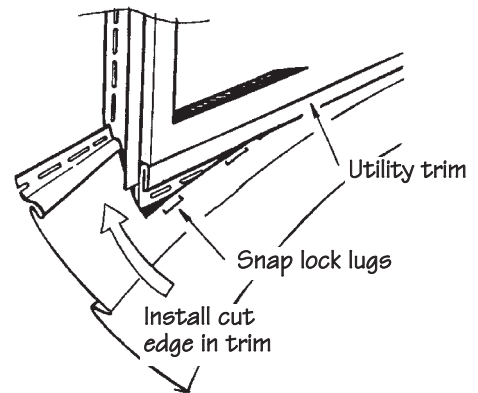

Figure 41.
- Install the siding panel, making sure the lugs (from the snap lock punch) lock into the utility trim (Fig. 41).